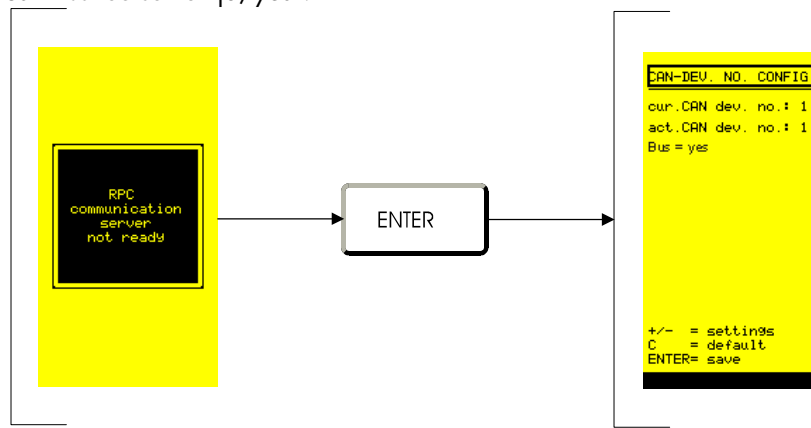

Figure 10.3: Multi-unit communication – Settings in the *CMP*
- The system will now boot. Communication between *CSP* and *CMP* must run properly. After booting – both »System OK« LEDs-*CMP* and *CSP* must emit a green light – the CAN Device No. which is assigned to this system (and which had been noted down beforehand) or which has not yet been assigned within the CAN Bus system (in the menu »Data/Communication« the ID (»CAN Device No.«) for *CSP* and *CMP* is converted) is adjusted in the menu DATA / Communication / CAN (see Figure 10.3).